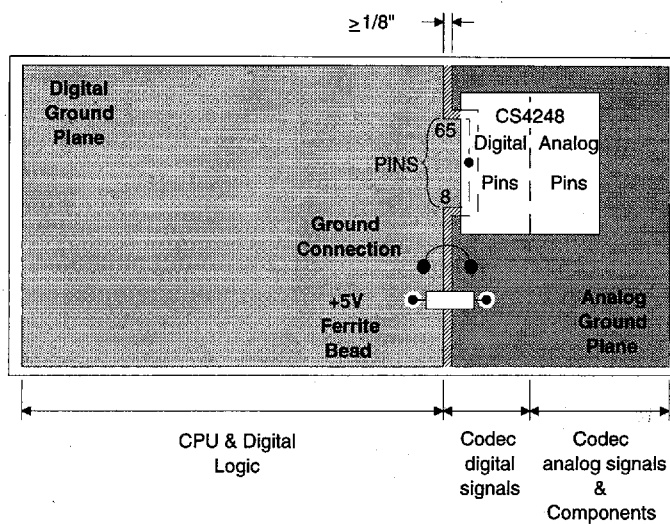
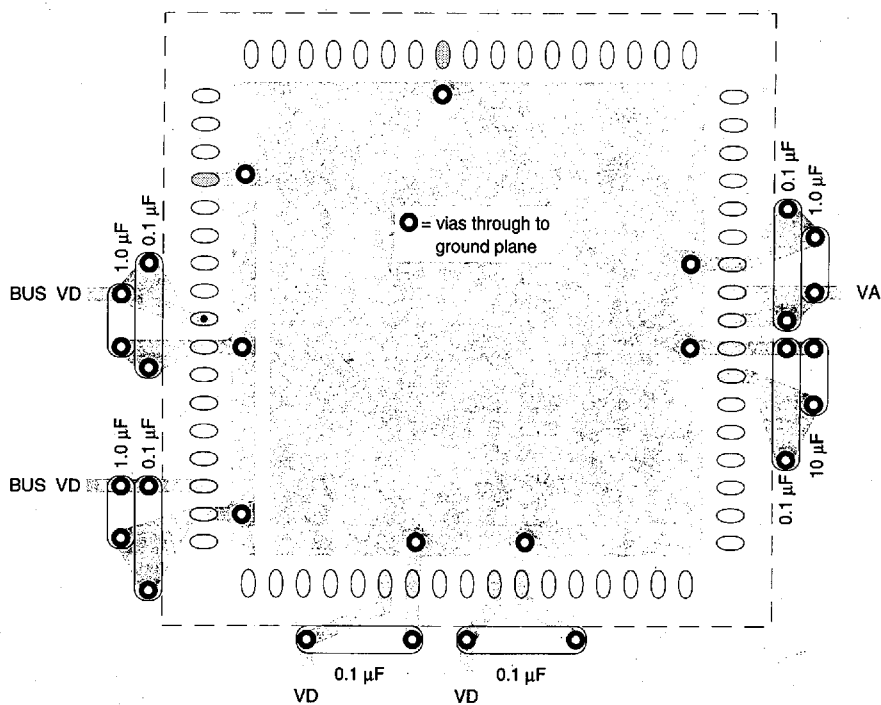

Figure 9. Suggested Layout Guideline
Figure 10. Recommended Decoupling Capacitor Positions
Figure 9 is the suggested layout for the CS4248. Similar to other Crystal codecs, it is recommended that the device be located on a separate analog ground plane. With the CS4248's parallel data interface, however, optimum performance is achieved by extending the digital ground plane across pins 65 through 68 and pins 1 through 8. Pins 2 and 8 are grounds for the data bus and are electrically connected to the digital ground plane. This minimizes the effect of the bus interface due to transient currents during bus switching. Figure 10 shows the recommended positioning of the decoupling capacitors. The capacitors must be on the same layer as, and close to, the CS4248. The vias shown go through to the ground plane layer. See Crystal's layout application note for more information.
3. Crystal recommends the ground plane as shown in Figure 9. Any ground plane